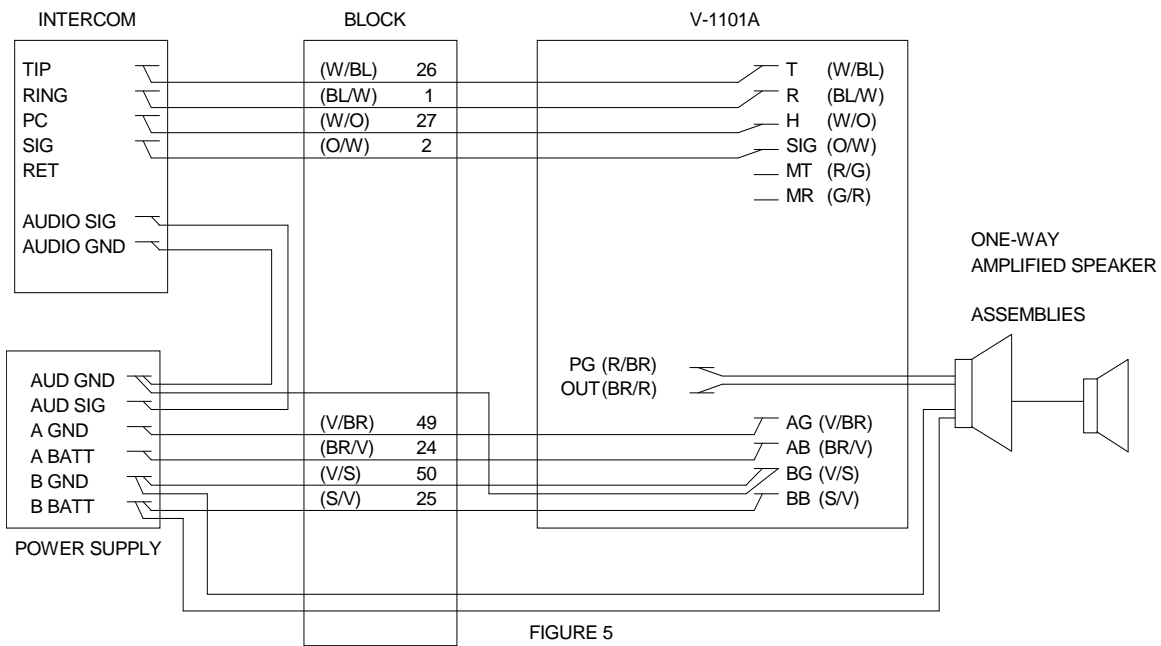

FIGURE 5
When connecting the V-1101A to an intercom number (Figure 5) four leads are required from the intercom: Tip and Ring to supply audio, a Page Control Lead, and a Signal Lead. The Page Control Lead must supply a Ground whenever the intercom is in use, and must be open when the intercom is idle. This lead is used to release the V-1101A at the end of a page. The intercom may be wired to use 10 Vac, 18 Vac, or 105 Vac for signaling. The intercom signal must be momentary, i.e., the signal must be present for approximately 1 second and then drop off. A continuous signal will prevent the V-1101A from operating.
1. No output at speakers.	<p>1. Check for audio on the Red/Brown pair of the V-1101A while paging.</p> <p>(a) If audio is present: Verify proper audio and power wiring to speakers. Try connecting a speaker in the equipment room: Connect the Tip and Ring leads directly to the Red/Brown pair of the V-1101A and connect the -24 Vdc and ground leads to the power supply. Test again.</p> <p>(b) If no audio: Refer to Wiring Instructions and complete the power test (step 7). Correct any problems and test again. If there is still no audio, then return to the installation Figure used and verify ALL connections. Use a meter to verify the connections from the punchdown block to the amphenol. If there is still no audio and you used Figure 5 Intercom Access, connect a bell or buzzer to the V-1101A H and SIG leads. Dial the page access number. If the bell or buzzer does not ring, then you are either not getting a page control from the intercom, or you have connected the wrong half of the signal pair to the V-1101A SIG lead.</p>